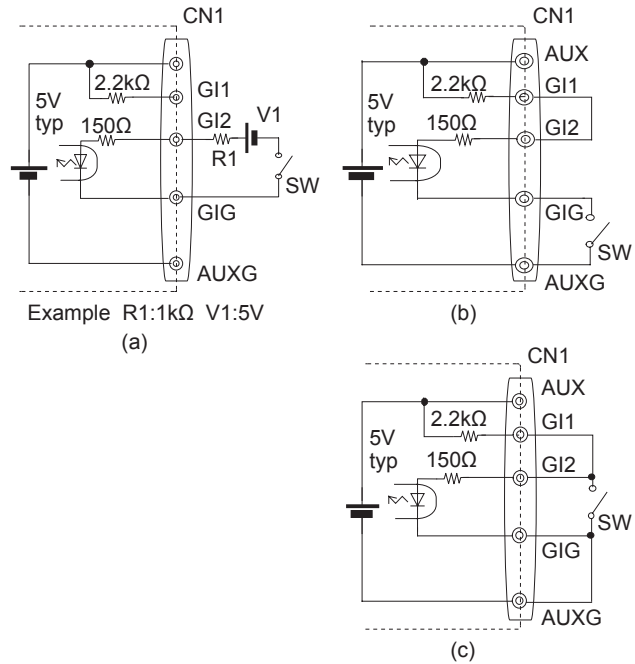

Fig.3.7 Connection examples for Global inhibit
- The unit has the Global inhibit function. Global inhibit is the control signal input which turns all outputs off by supplying the current into GI2. Table 3.2 is specifications and Fig.3.7 is use examples for Global inhibit.
- ① The output can be turned off by supplying the current into GI2 pin.
- ② The current into GI2 pin is 3mA typ (12mA max).
- ③ The PR signal will get "High" when all output modules are turned off by the Global inhibit function.
- ④ When stopping outputs by Global inhibit, the built-in fans also stop.
- ⑤ AUX is available even when outputs stop by Global inhibit.
- ⑥ When stopping outputs by Global inhibit, the derating is required for AUX. Please refer to the item 3.16.
- ⑦ If the voltage or the current which exceeds the value in table 3.2 were supplied into GI2 pin, the output might not be generated correctly.
- ⑧ Start time is 1,000ms max.